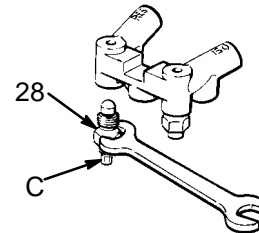

Fig. 20
1. Open the needle valves (C) completely – 3 1/2 turns.
2. Use a wrench (A) to unscrew the valve housing (28). Refer to Fig. 20.